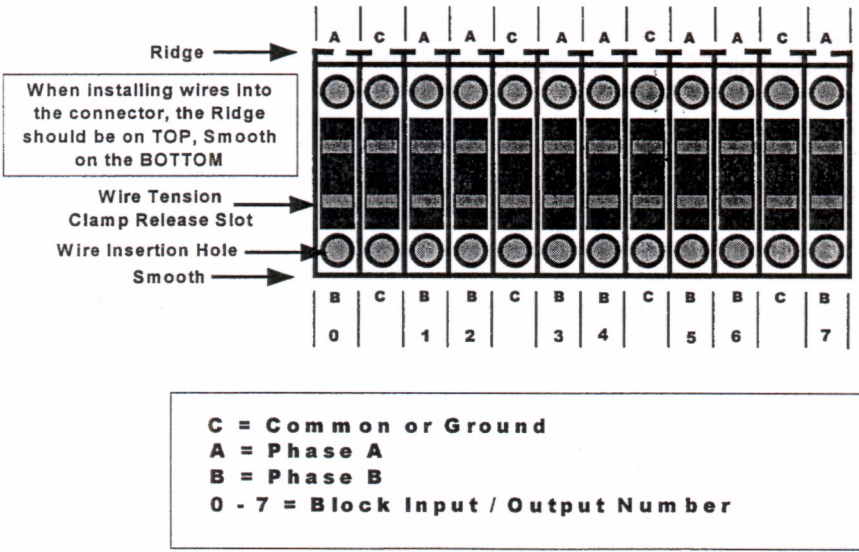

FIGURE C-2. Tension Clamp Connector (viewed from the back)
3. Unpack the Field Wiring Kit and connect the required sources or destinations to each of the tension clamp connectors. Refer to Figure C-2 on page C -4, for wiring each tension clamp connector.